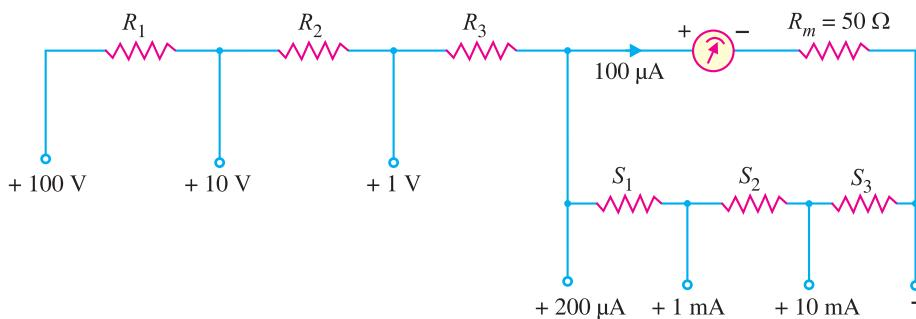

Fig. 22.6
**Typical multimeter circuit.** Fig 22.6 shows a typical multimeter circuit incorporating three voltage and current ranges.